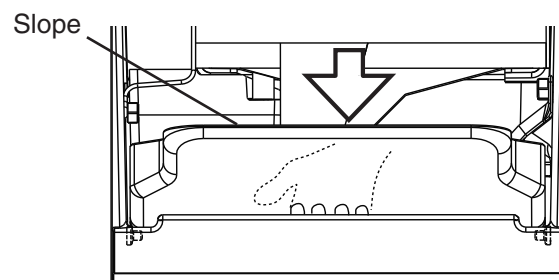

Fig. 47
17) Replace the slope in its correct position. See Fig. 47.